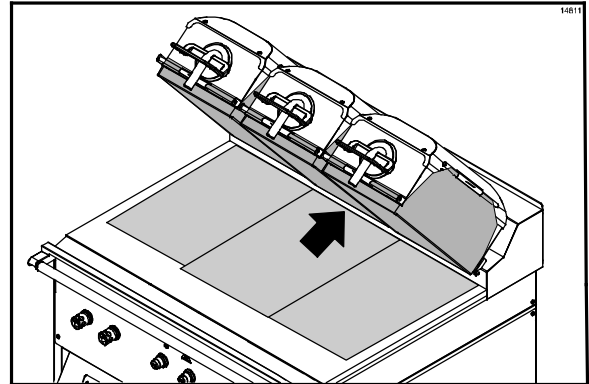

Figure 20
11. Align the back edge of the third lower release sheet with the back splash and middle of the grill. The release sheet will overlap the edge of the other two release sheets. (See Figure 20.)